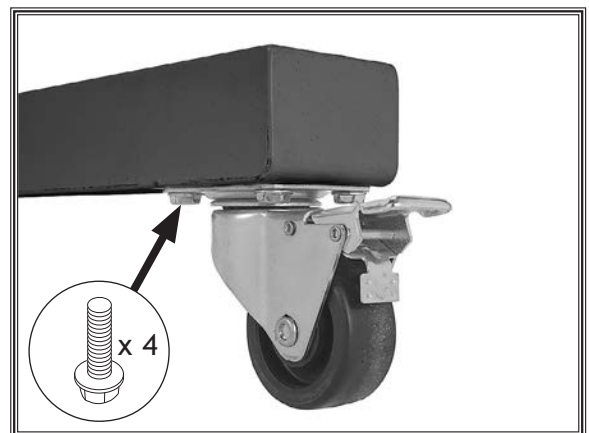

Figure 10. Locking swivel caster (1 of 4) attached to base.
1. Attach (4) 2 1/2" locking swivel casters to bottom of base, and secure each caster with (4) 5/16"-18 x 1 1/2" flange bolts (see **Figure 10**).